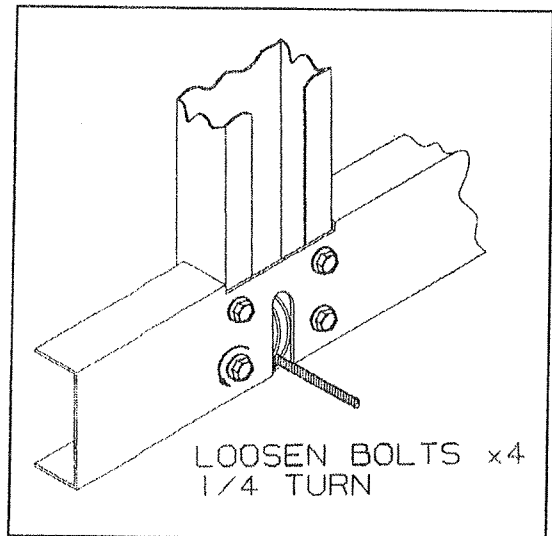

Figure 2
10. Remove the four bolts attaching the bottom stationary lift section to the underside of the frame channel. See figure 2.